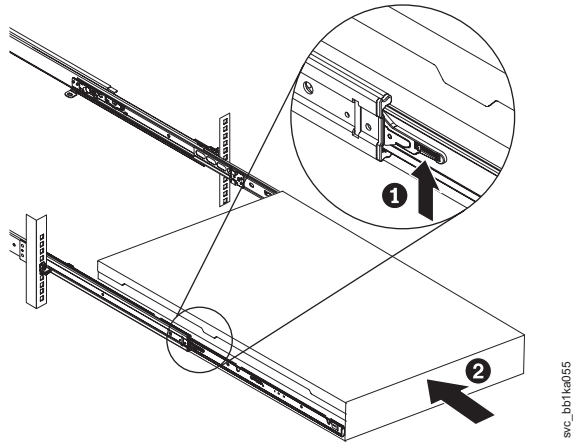

Figure 222. Raising the SAN Volume Controller 2145-CF8 or 2145-CG8 locking levers of the slide rails of the rack
8. Lift the locking levers (**1** in Figure 222 on page 224) on the slide rails and push the server **2** all the way into the rack until it clicks into place.